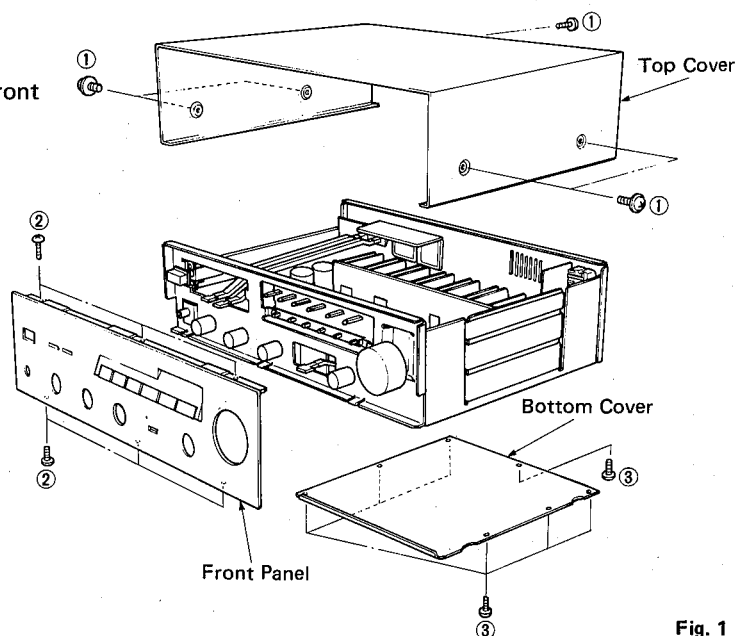

Fig. 1
- Remove 5 screws (①) in Fig. 1, and slide the Top Cover back.
- Remove 6 screws (②) in Fig. 1, and pull the Front Panel forward.
- Remove 7 screws (③) in Fig. 1.